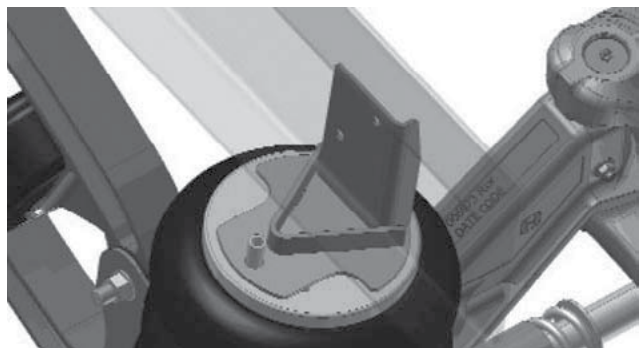

Figure 3 - Air spring plate spacer
4. If a 34.5 inch frame width is needed, loosen but do not remove the four pivot bolts connecting the hanger to the bushing saddle. Next, loosen the four bolts connecting the cross member to the hangers. Add one frame width spacer to both sides of the suspension. Retorque the pivot bolts and cross member bolts. See torque values below. (See figure 3 for frame width spacer reference)